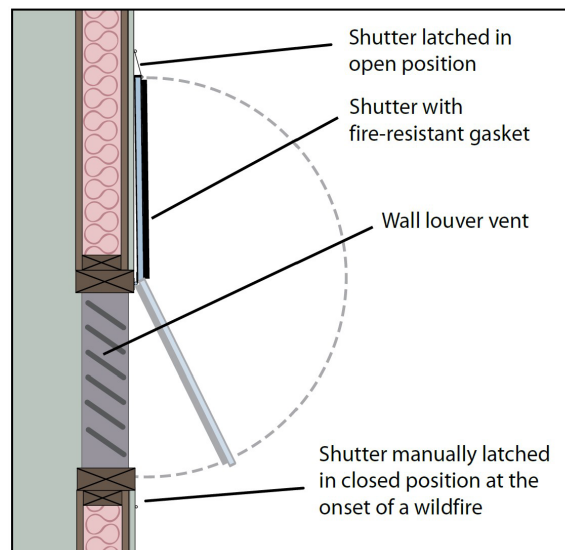

Figure 3. A hinged shutter.
- **Gable-end vent.** Instead of using ridge vents, specify and install gable-end vents with specially designed metal shutters. When a wildfire threatens, the shutters can be placed over the gableend vent. A hinged shutter that can be latched in an open or closed position is recommended (see Figure 3). A detachable shutter design can be used, but when the shutters are needed, the homeowner must remember quickly where they are stored. Shutters should have a gasket that provides a tight seal between the shutter and gable-end vent. For a more conservative shutter, a shutter with an insulated core encapsulated by metal (similar to a refrigerator door) can be used.